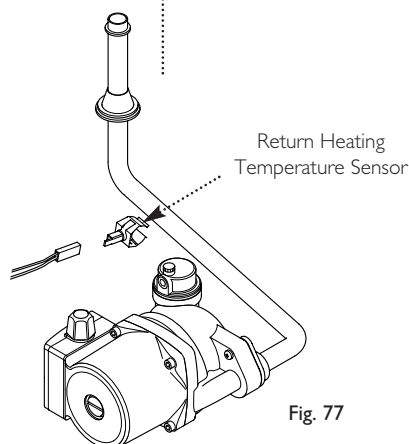

Fig. 77
14.12 Return Heating Temperature Sensor (Fig. 77)